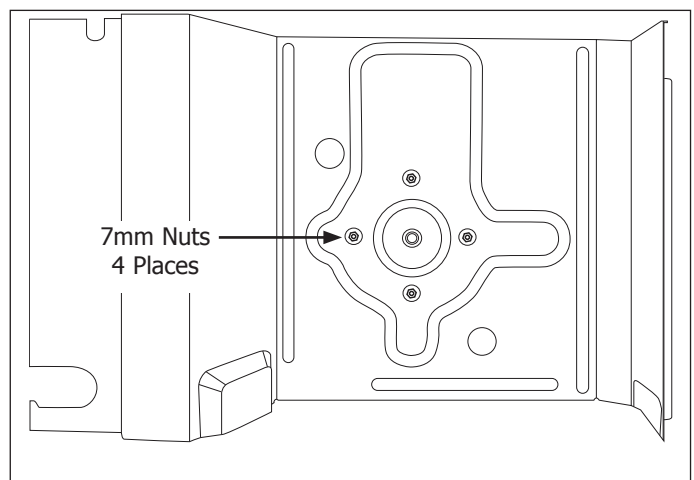

Figure 4-50.
8. Use a 7mm socket or wrench and remove the four nuts securing the condenser fan motor to the front partition. Pull condenser fan motor from front partition. (See Figure 4-50)